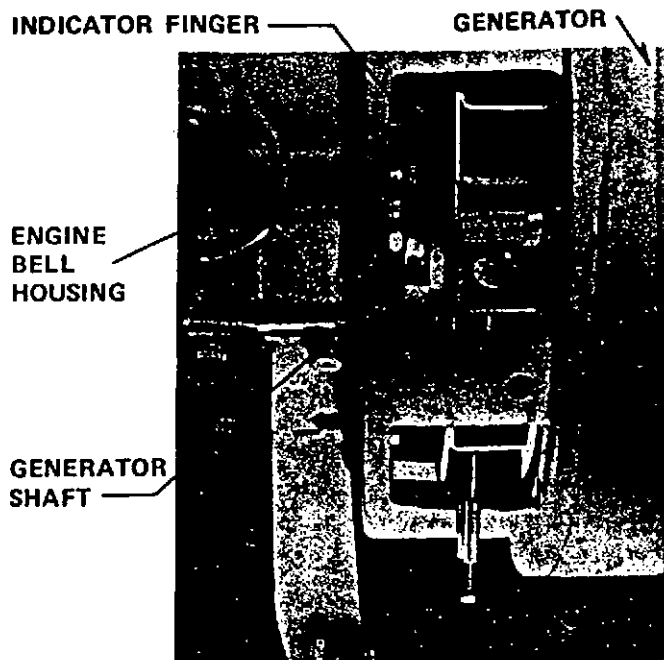

FIGURE 2-7 CHECKING GENERATOR SHAFT RUNOUT
- j. After generator is assembled to the engine; but before installing the fan screen or placing generator set in operation, check run out of the generator shaft. Check run out by placing the base of a dial indicator on a generator frame rib and positioning the indicator finger on the generator shaft as shown in figure 2-7. Set dial indicator to zero. Turn generator through at least one revolution. TOTAL INDICATOR READING SHOULD NOT EXCEED .005 - INCH. See NOTE on page 7.